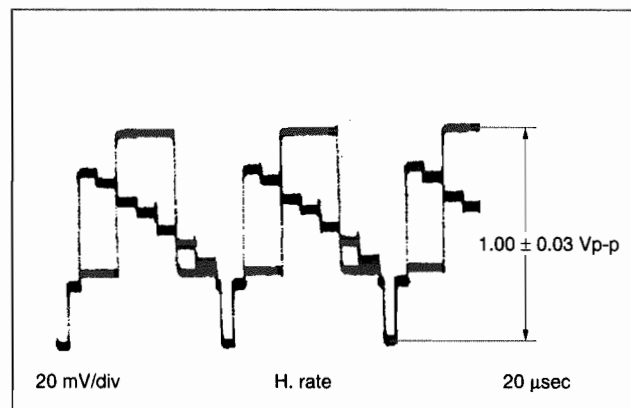

Fig. 3-3-6 PB Y level
- (1) Connect an oscilloscope to Y OUT TERMINAL.
- (2) Set the EVR mode by pressing the "K" button of the pre-setting unit.
- (3) Set "A : 11" by twice pressing 1 button of the remote controller.
- (4) Record a colour bar signal in the S-VHS mode, and playback the recorded colour bar signal.
- (5) Adjust the CH "+" or "-" buttons for  $1.00 \pm 0.03$  Vp-p as shown in Fig. 3-3-6.
- (6) Set the normal VCR mode by pressing the "K" button of the pre-setting unit again so adjustment data is memorized.
- (7) Repeat steps (1) to (6) in the VHS mode.